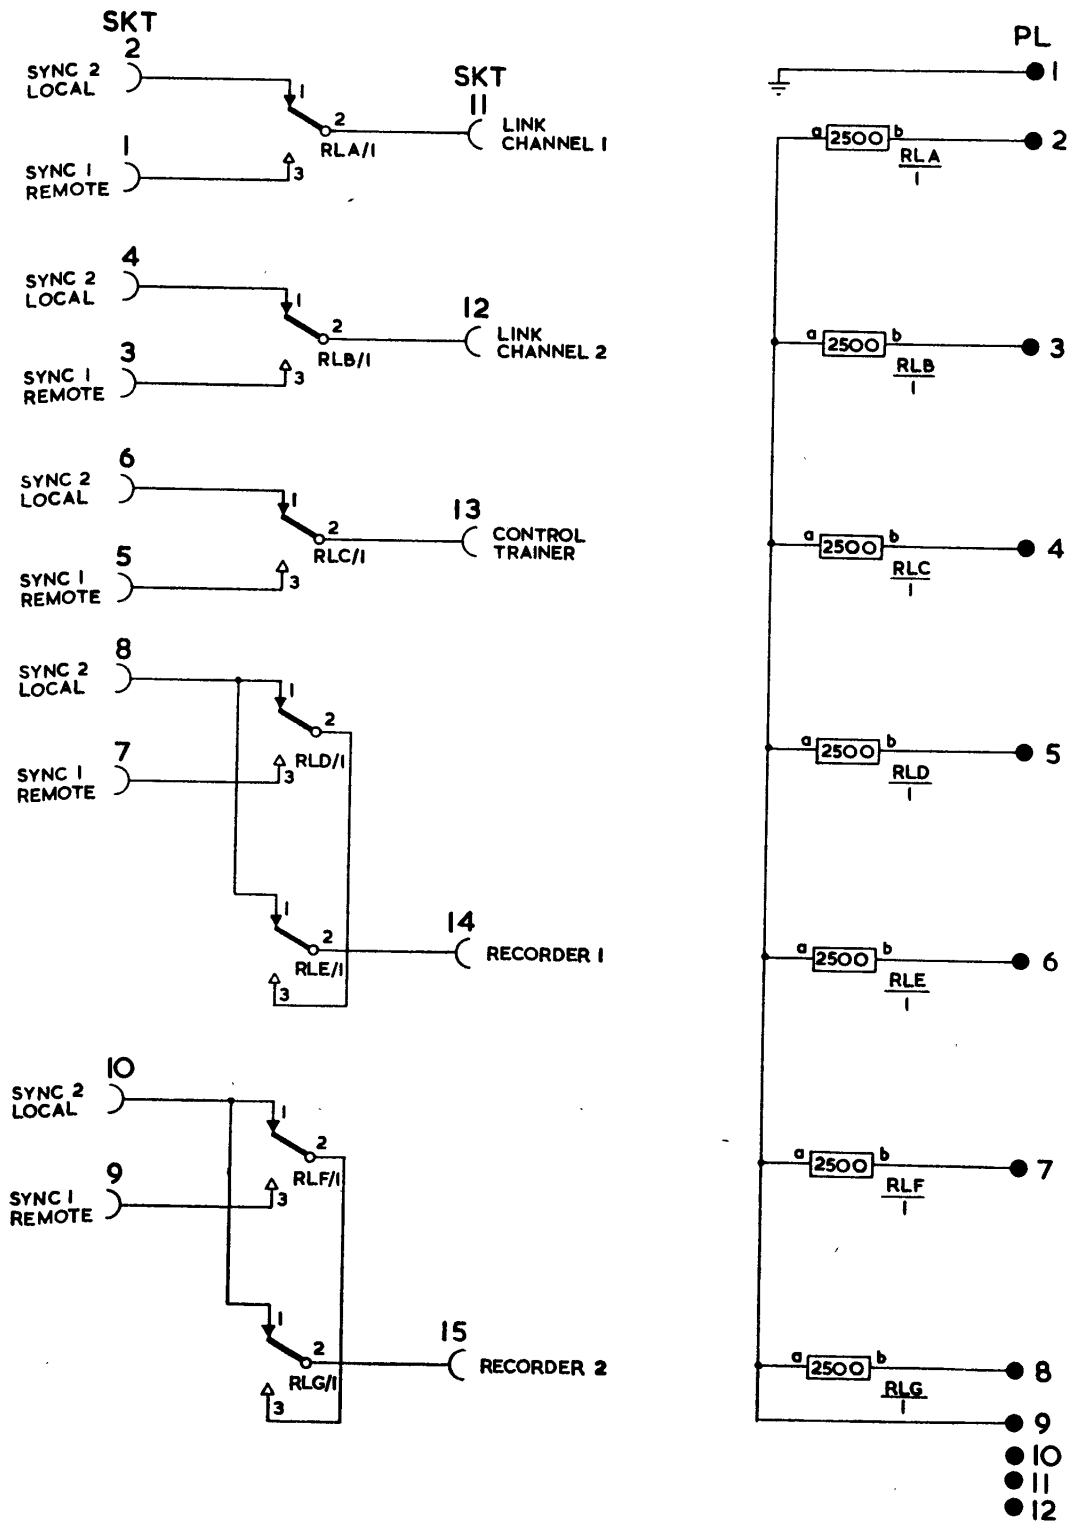

Fig. 1 Network pulse delay circuit diagram
2. Figure 1 shows the circuit diagram of the sync selector relay panel. Link channels 1 and 2 may be triggered by either local sync pulses or by remote undelayed sync pulses. RLA/1 and RLB/1 perform the switching. The control trainer may